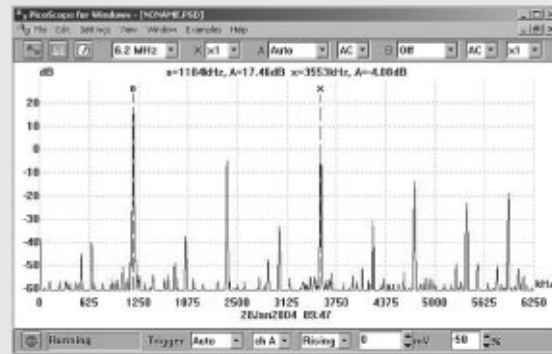

Figure 10.28
**Problem 11.** Fig. 10.28 shows the frequency spectrum of a signal at 1184 kHz displayed by a high-speed virtual DSO. Determine (a) the harmonic relationship between the signals marked 'o' and 'x', (b) the difference in amplitude (expressed in dB) between the signals marked 'o' and 'x' and (c) the amplitude of the second harmonic relative to the fundamental signal 'o'